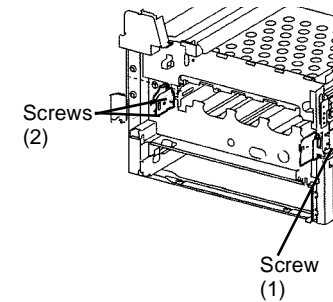

Figure 1 Removing Xerographic Release Lever
11. Remove Xerographic Release Lever Brackets (Figure 1).
- a. Remove Screws (2) and remove Bracket.
- b. Remove Screw (1) and remove Bracket.